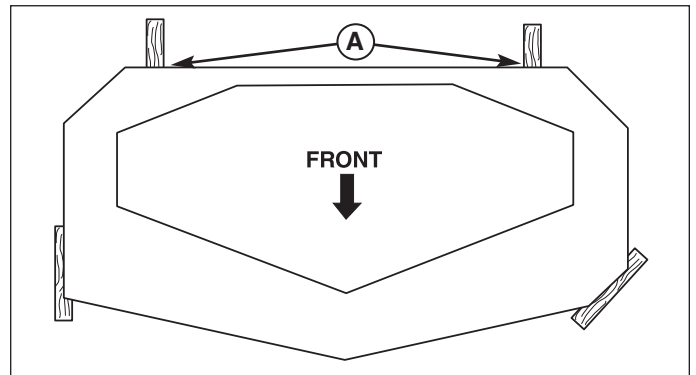

Figure 35. 2 x 4 Locations
6. Place 2 x 4 blocks under each corner of the mower deck with the 3-1/2" sides being vertical. Place a 1/4" (0,64 cm) thick spacer on top of the rear 2 x 4 blocks. See Figure 35.